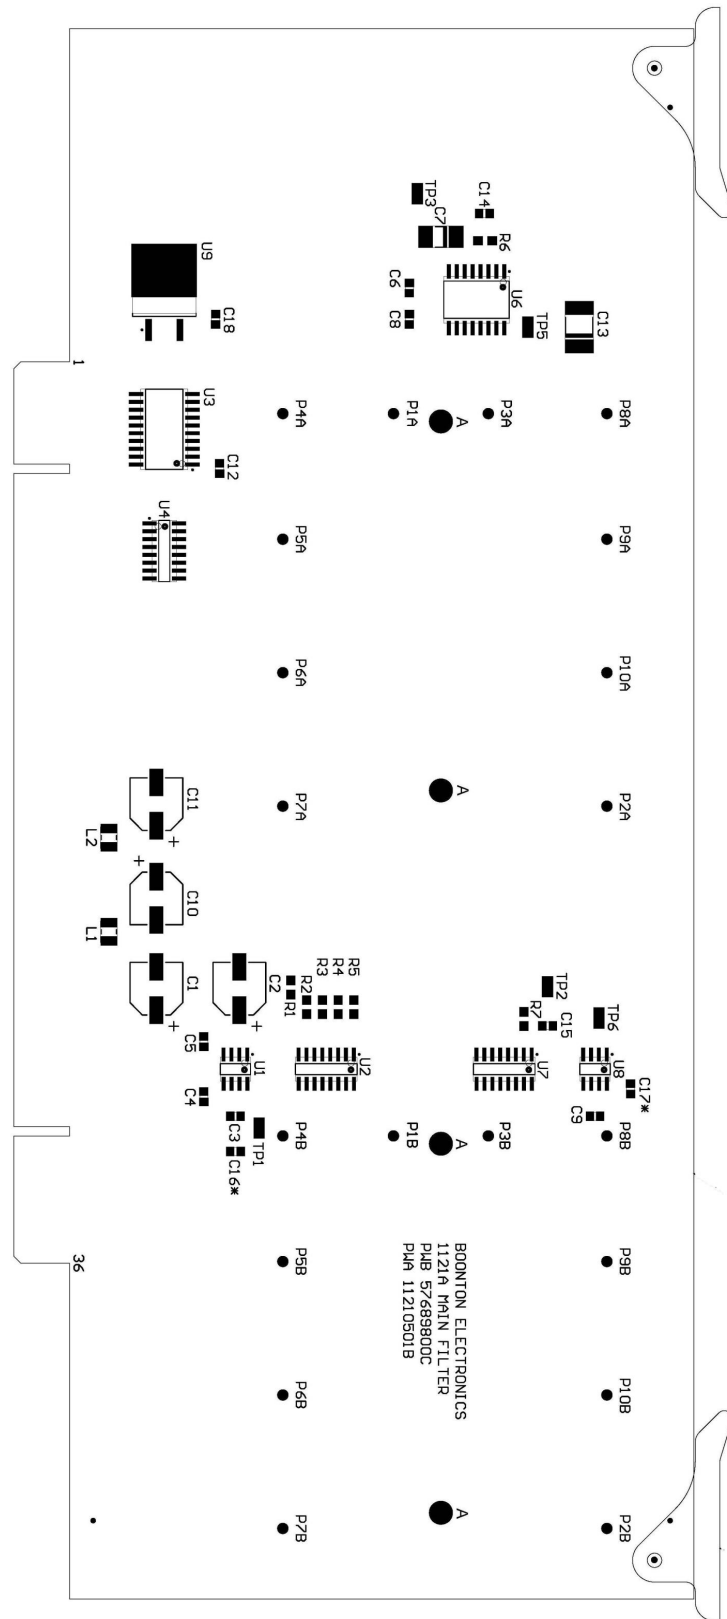

Figure 6-4. PWA '1121A' Main Filter (A1)
**11210501A PWA MAIN FILTER 1121A (A1) (Figure 6-4)